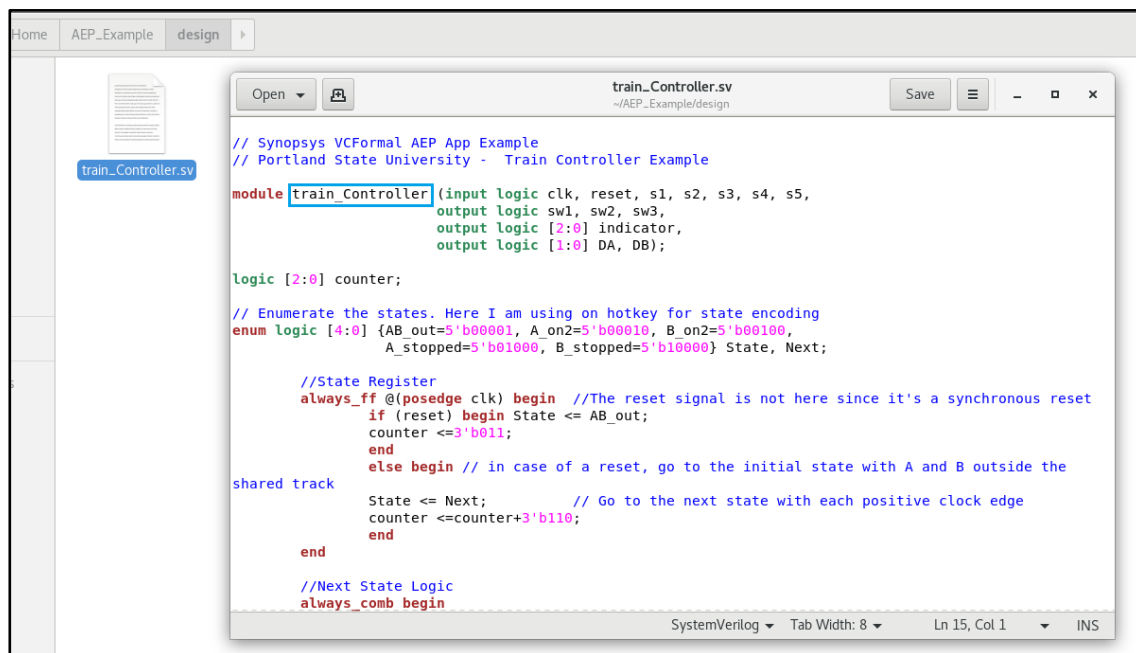

Figure 3. Example of the design we are using in this tutorial.
In order for VC Formal to map your design, you need to acknowledge and keep note of your exact module name, as highlighted in *Figure 3* above. This will come in handy when you create your TCL file. To make things simple, we suggest naming your design file after its corresponding module name (more on this in the TCL File section below).
- (1) Instruction that sets the appmode to AEP in VC Formal.
- (2) Name of the main module as established in the Design file.
- (3) The property type identifier switch name for desired AEP analysis (see *Table 1* in Appendix).
- (4) Design file location so VC Formal knows where to find the file.
As mentioned before, VC Formal is case sensitive, and in order for it to map your designs, you will need to use the same module name in the TCL script (2) and the module name in the design file. For example, we can see that our module name in the TCL script is the same as the module name in the design file in *Figure 3*.